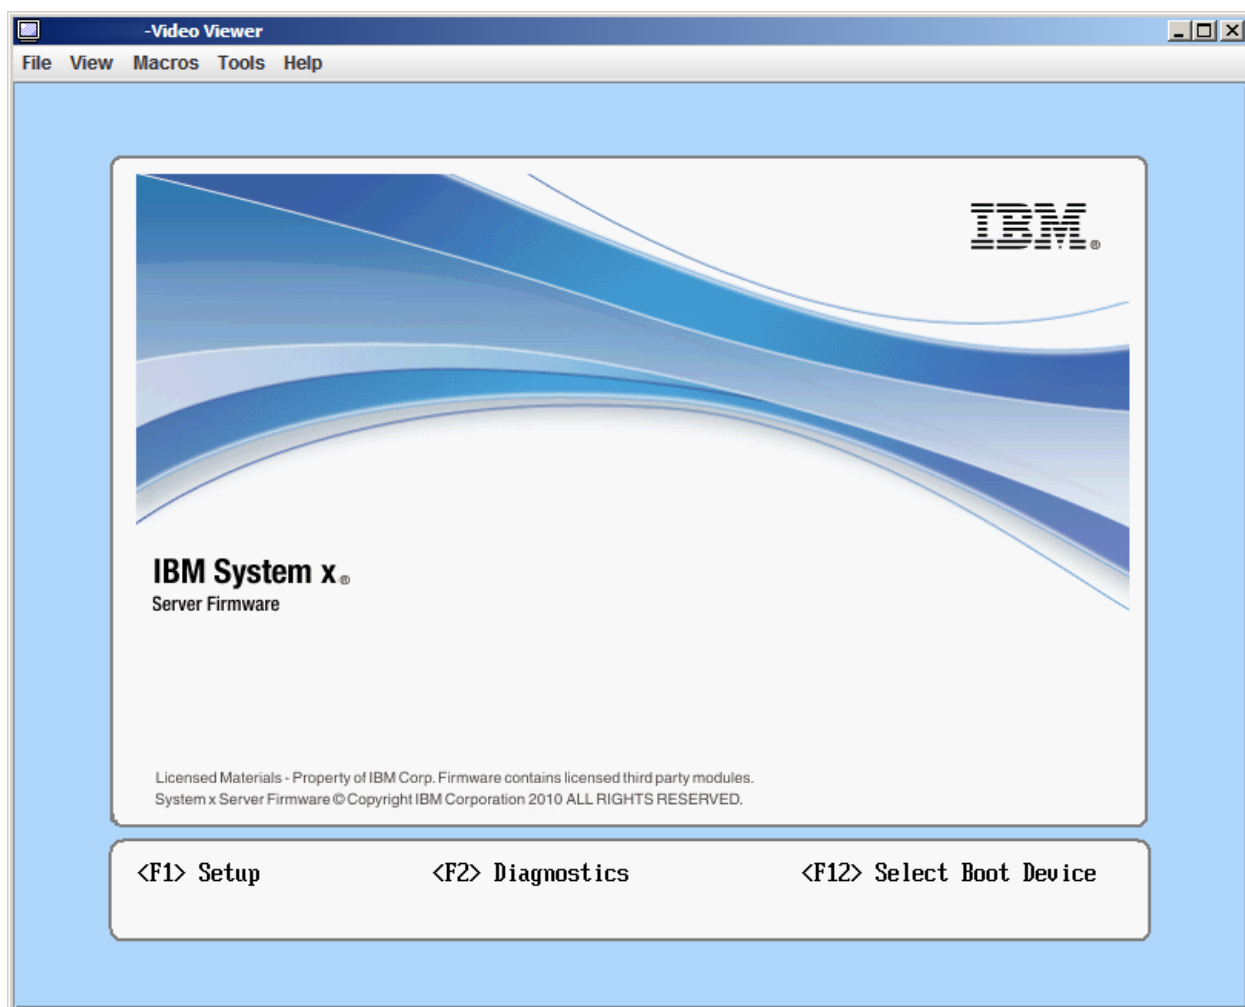
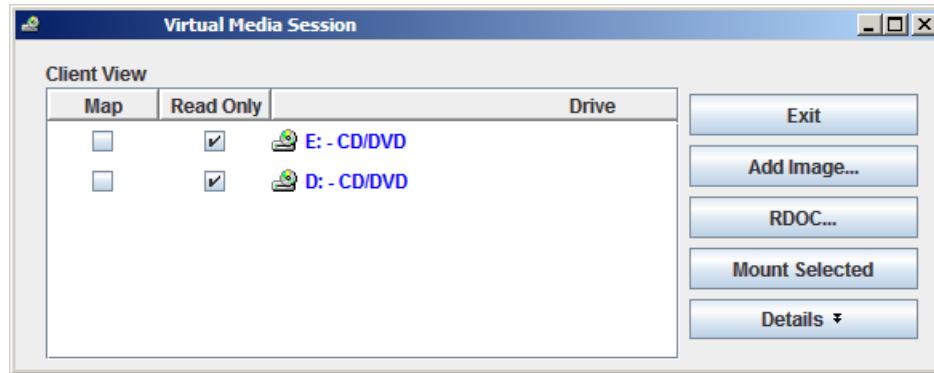

Figure 6-39 Video Viewer window
Figure 6-40 Virtual Media Session window
4. Two Java application windows open, as shown in Figure 6-39 and Figure 6-40.